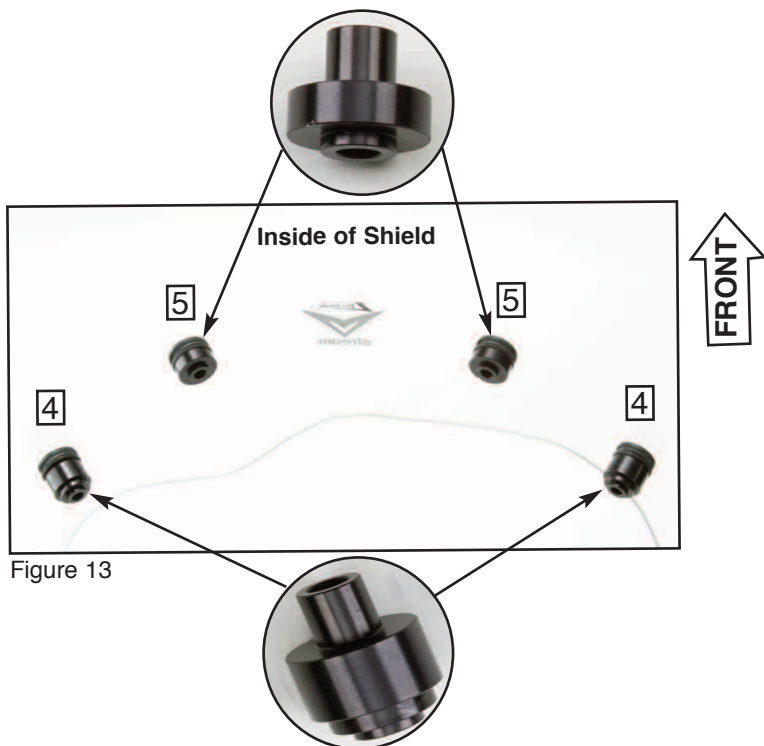

Figure 13
8. From inside of windscreen install the two, Outer Bushings (4) and the two, Inner Bushings (5). **Figure 13**